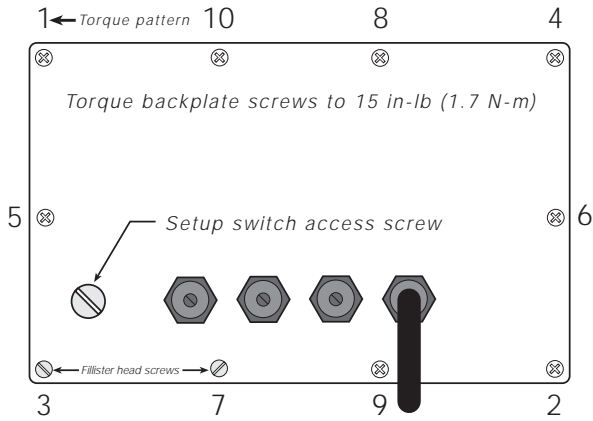

Figure 3. Torque Pattern for Backplate Screws
8. Position backplate over the enclosure and reinstall the backplate screws. Use the torque pattern shown in Figure 3 to prevent distorting the backplate gasket. Torque backplate screws to 15 in-lb (1.7 N-m).